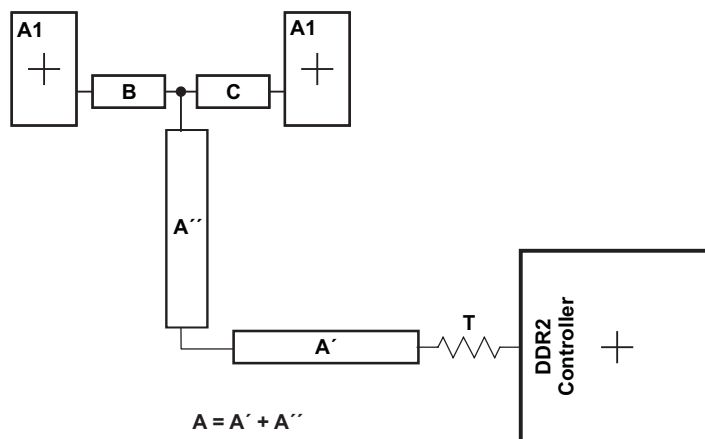

Figure 8-52. CK and ADDR_CTRL Routing and Topology
Figure 8-52 shows the topology of the routing for the CK and ADDR_CTRL net classes. The route is a balanced T as it is intended that the length of segments B and C be equal. In addition, the length of A (A'+A'') should be maximized.
- (1) The length of segment A = A' + A'' as shown in Figure 8-52.
- (2) Series terminator, if used, should be located closest to the processor.
- (3) Center-to-center spacing is allowed to fall to minimum (w) for up to 500 mils of routed length to accommodate BGA escape and routing congestion.
- (4) CACLM is the longest Manhattan distance of the CK and ADDR_CTRL net classes.